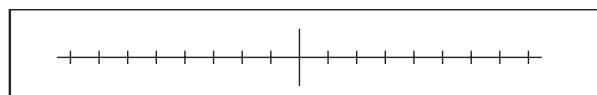

Figure 4-1
*Computerized Numerical Control* means *control by the numbers using a computer*. All drawing information has to be translated into CNC program, using primarily numbers. Numbers are also used to describe commands, functions, comments, and so on. The mathematical concept of a real number system can be expressed graphically on a horizontal or a vertical line, called the *number scale*, where all divisions have the same length - *Figure 4-1*.